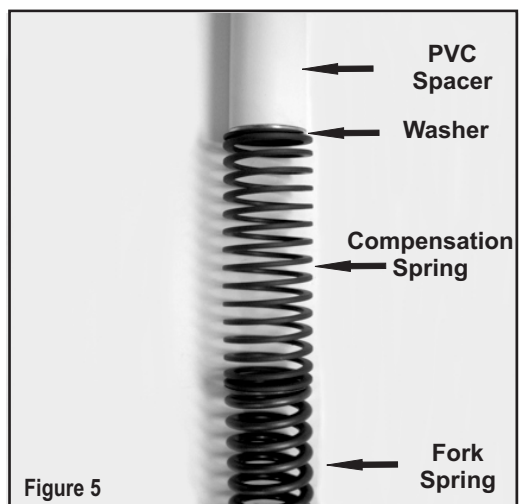

Figure 5
- With the front forks fully extended again, insert the Drop-In Fork Spring into the fork tube, then insert the Drop-In Compensation Spring, Washer and PVC spacer. **Figure 5**